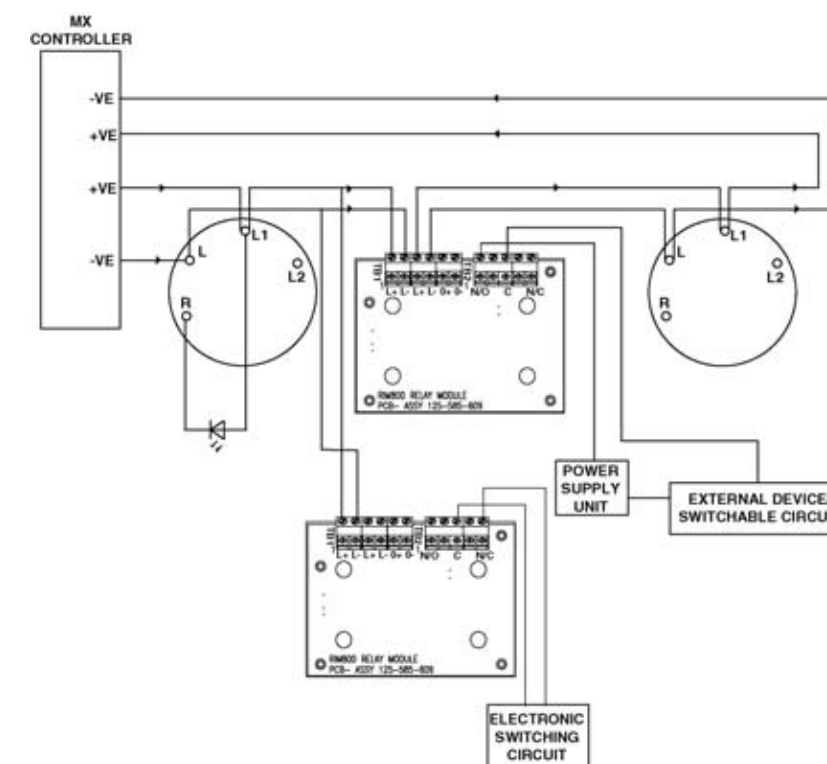

Fig. 3 EV-OP Simplified Wiring Diagram
- 3) See Fig.3 for EV-OP Simplified Wiring Diagram.